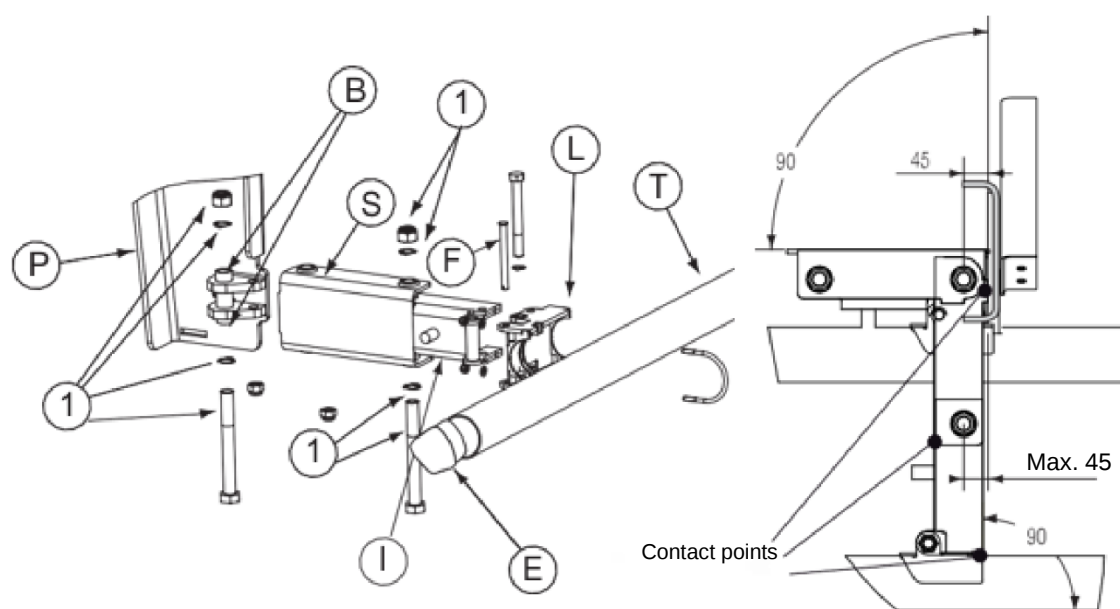
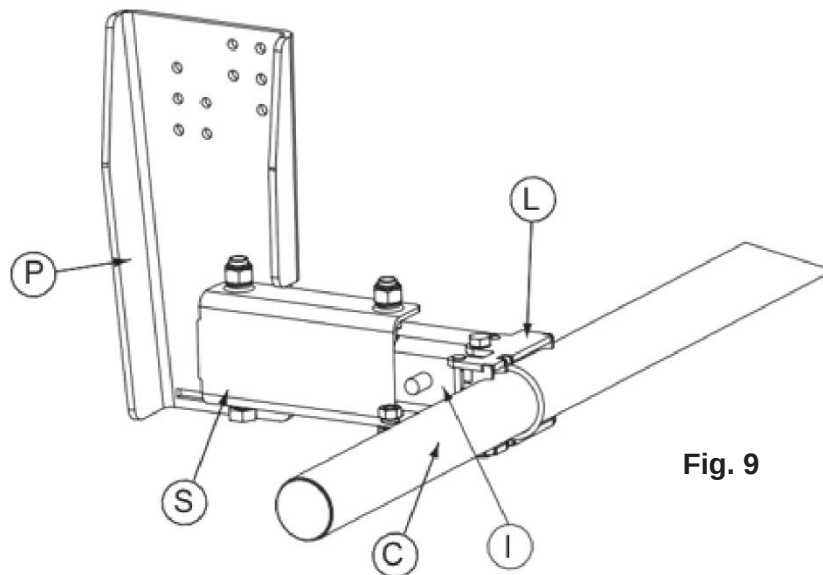

Fig. 8
Fig. 9
- Installation of upper struts (**S**) on the plates (**P**) and mounting on boss (**B**) with screws M27 (1), washers and nuts (provided). Installation and attachment of lower struts (**i**) on the upper struts (**s**) with screws M27(1) (see Fig. 8). The M27 screws must be completely tightened and then loosed 1/6 of a turn.
- Installation of tube supports (**I**) on lower struts (**i**) with the intended M20 fasteners (**2**) (see Fig. 9).
- Check the end-point positions of the upper struts (**s**) with respect to the plates (perpendicular and parallel), and perform grinding on contact points if necessary (see Fig. 9).
- Installation of upper struts (**S**) on the plates (**P**) and mounting on bossing (**B**) with screws M27 (**1**), washers and nuts (provided). Installation and attachment of lower struts (**i**) on the upper struts (**s**) with screws M27 (**1**), (see Fig. 8).
- Installation of tube supports (**L**) on lower struts (**i**) with the intended M20 fasteners (**2**) (see Fig. 9).
- Check the end-point positions of the upper struts (**S**) with respect to the plates (perpendicular and parallel), and perform grinding on contact points if necessary (see Fig. 9).
- After installing the two handles (M), position the under-run bar (T) (see fig. 10) in the tube supports with clamps (I) while continuing to ensure that contact points correspond to fig. 9.
- Verification of low position (road) with installation of safety pins (**fig. 8**), upper position (work) and contact points (**fig. 9**).
Install the two rubber stops (c) (see **fig.9**) by inserting them in the holes intended for this purpose on the upper and lower struts (i).